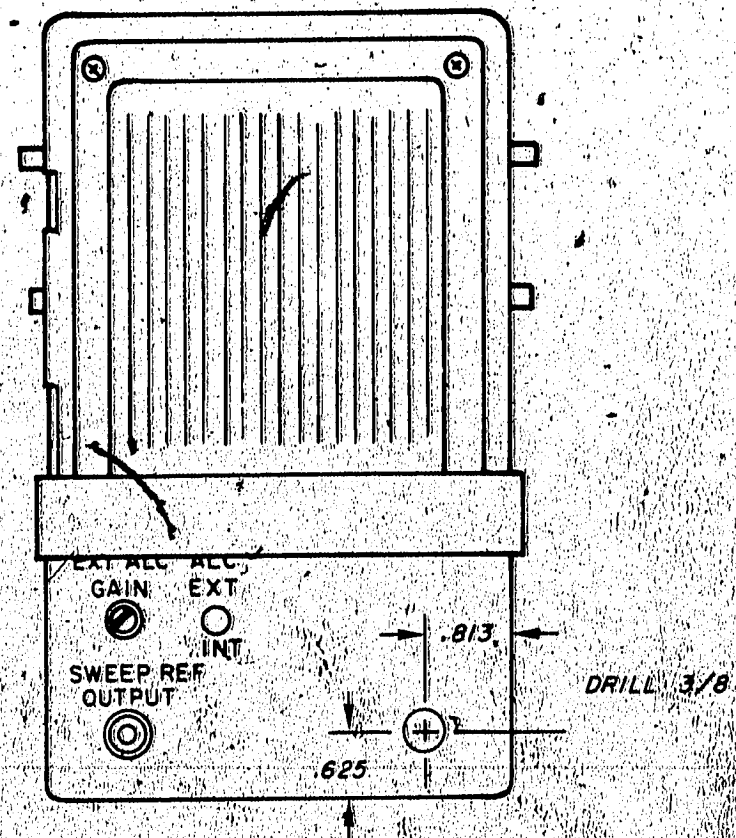

Figure 2. 8692A/B - 8694A/B Shunt Modulator Installation. Rear View of RF Unit
3. Drill a 3/8" hole in rear panel as shown in Figure 2.